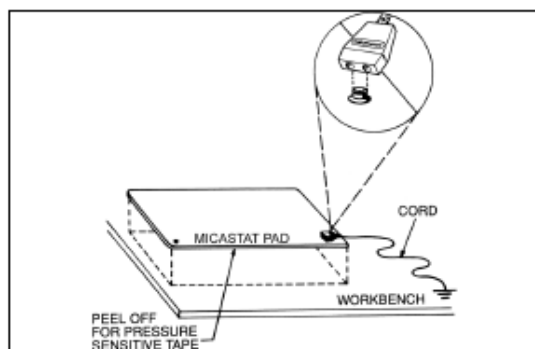

Figure 9. Proper installation of Micastat® Pad.
5. Place the electrodes in position A as shown in Rtt test diagram (Fig. 9). Set the meter selector switch to 100V.
5. Place the electrodes in position A as shown in R_{tt} test diagram (Fig. 9). Set the meter selector switch to 100V.